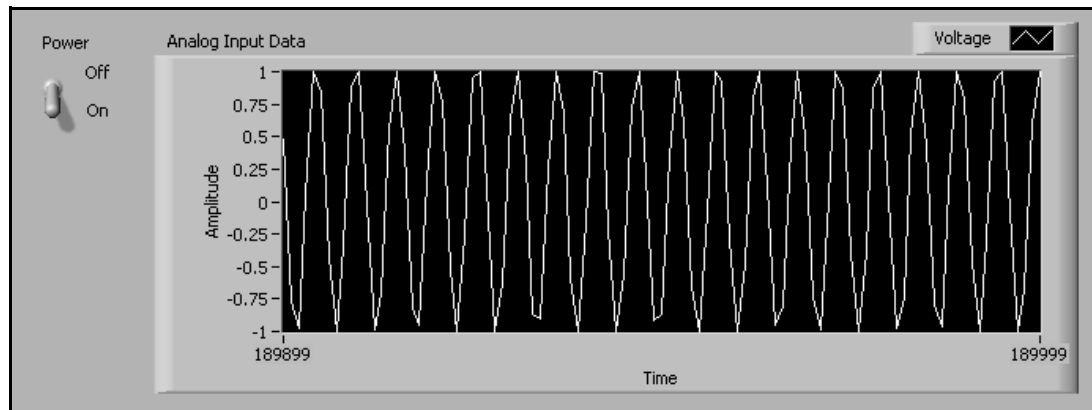

Figure 8-7. Triggered Analog Input front panel
In the following steps, you build the front panel shown in Figure 8-7.
- Place the free labels as shown in Figure 8-7.